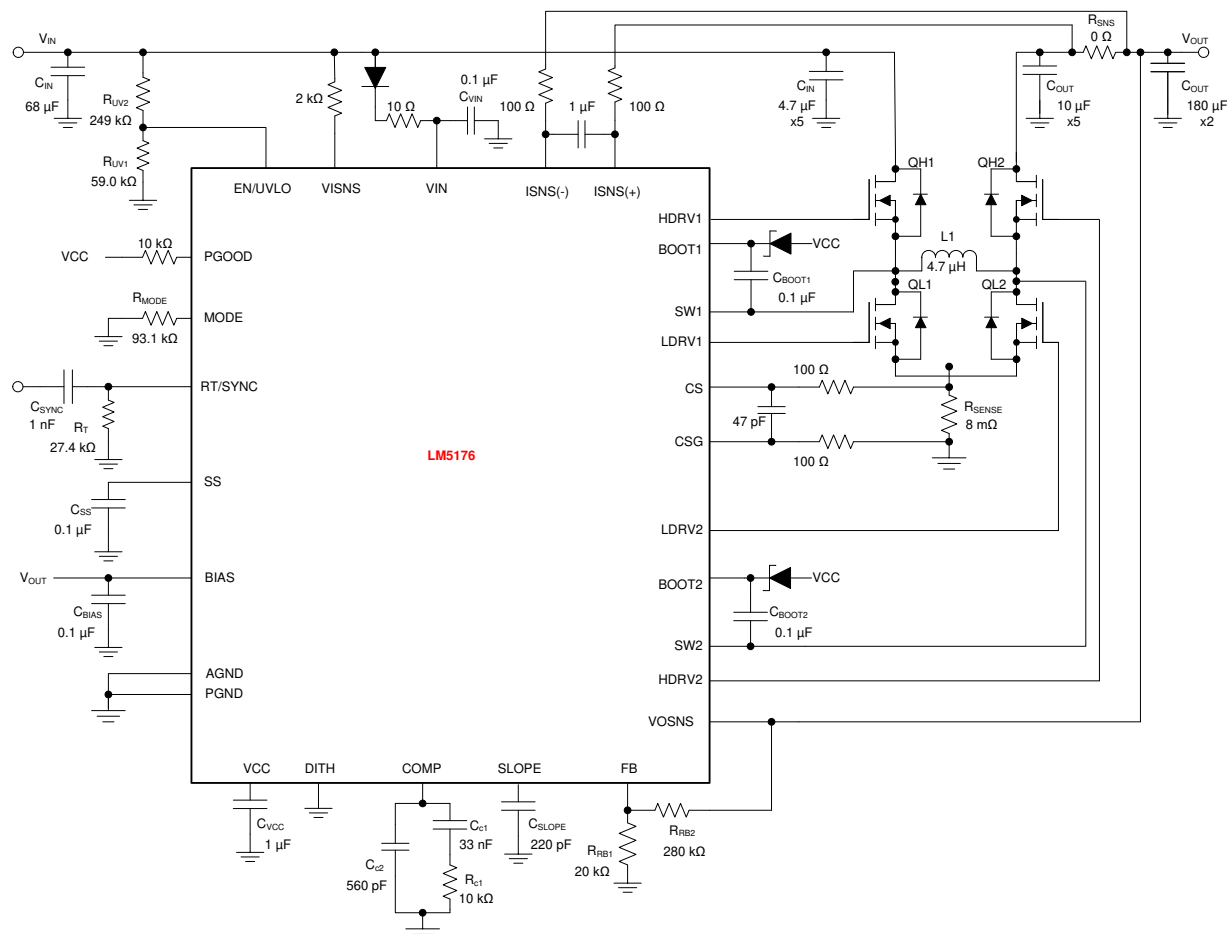

Figure 25. LM5176 Four-Switch Buck Boost Application Schematic
A filter network as shown in Figure 25 is often used across the ISNS(+) and ISNS(-) pins to filter the ripple in the average current sense signal.
For application where input voltage is higher than 40 V, a 2-k Ω resistor in series with the VISNS pin is required as shown in Figure 25.
The LM5176 has a gm error amplifier for loop compensation. The gm amplifier output (COMP) range is 0.3 V to 3 V. Connect an R_{C1} - C_{C1} compensation network between COMP and ground for type II (PI) compensation (see Figure 25). Another pole is usually added using C_{C2} to suppress higher frequency noise and switching frequency ripple.
The low-side gate drivers are powered from VCC and the high-side gate drivers HDRV1 and HDRV2 are powered from bootstrap capacitors C_{BOOT1} (between BOOT1 and SW1) and C_{BOOT2} (between BOOT2 and SW2), respectively. The C_{BOOT1} and C_{BOOT2} capacitors are charged through external Schottky diodes connected to the VCC pin as shown in Figure 25.
Typically, a combination of ceramic and bulk capacitors is needed to provide low ESR and high ripple current capacity. The complete schematic in Figure 25 shows a good starting point for C_{OUT} for typical applications.
The maximum RMS current occurs at $D = 0.5$, which gives $I_{CIN(RMS)} = I_{OUT} / 2 = 3$ A. A combination of ceramic and bulk capacitors should be used to provide a short path for high di/dt current and to reduce the output voltage ripple. The complete schematic in Figure 25 is a good starting point for C_{IN} for typical applications.
For some application circuits, it can be required to add a filter network to attenuate noise in the CS and CSG sense lines. See Figure 25 for typical values. The filter resistance should not exceed 100 Ω .